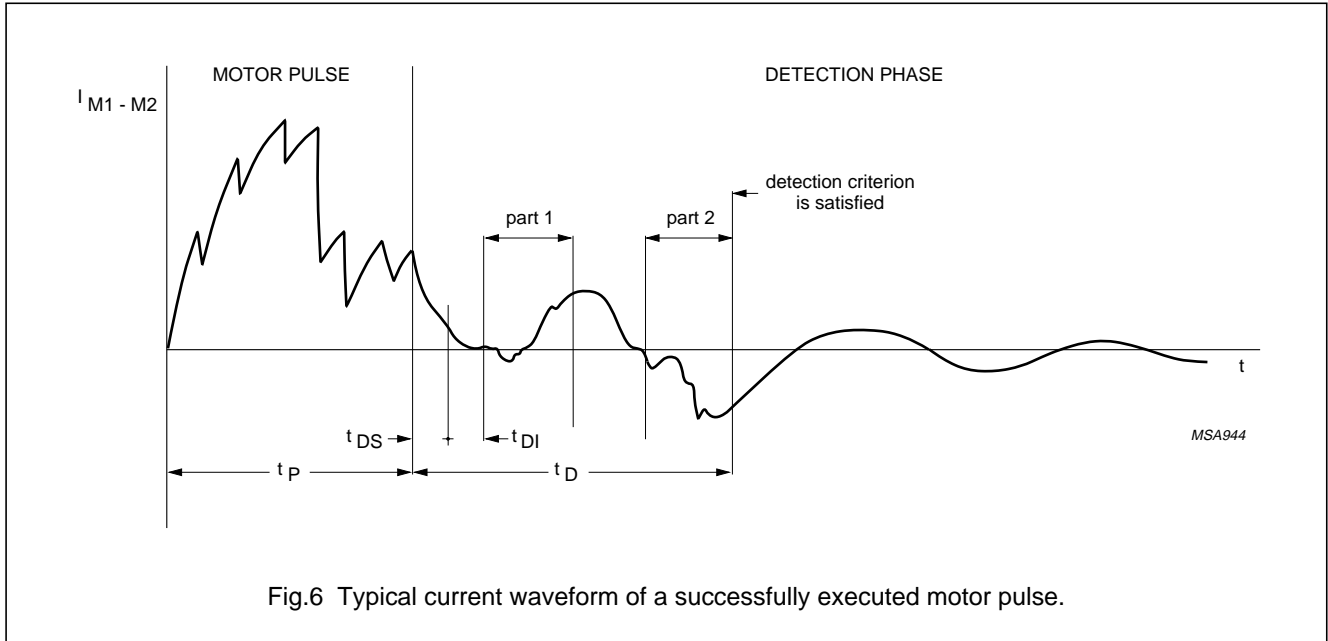

Fig.6 Typical current waveform of a successfully executed motor pulse.
The PCA146x uses current detection in two defined parts of the detection phase to determine if the motor has moved (refer to Figs 6 and 7). The detection criteria are:
- Minimum value of  $N = 2$ ; where  $N =$  number of measured positive current polarities since the first negative current polarity after part 1 was detected (see Fig.6).